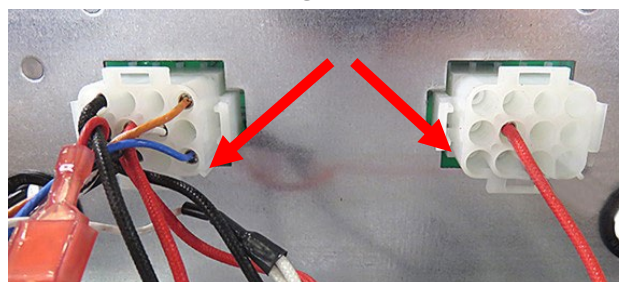

Figure 12 Rear View of Control Box
14. On the rear of the control box are two (2) connectors that attach to the rear of the interface board (see Figure 12). The photo is viewed from inside from the rear of the fryer.
15. Reach up behind the control box and locate the plugs shown in Figure 12.
32. Reconnect the two 12-pin connectors disconnected in step 16, ensuring that the correct connectors are connected to the correct side of the rear of the interface board (see Figure 12).